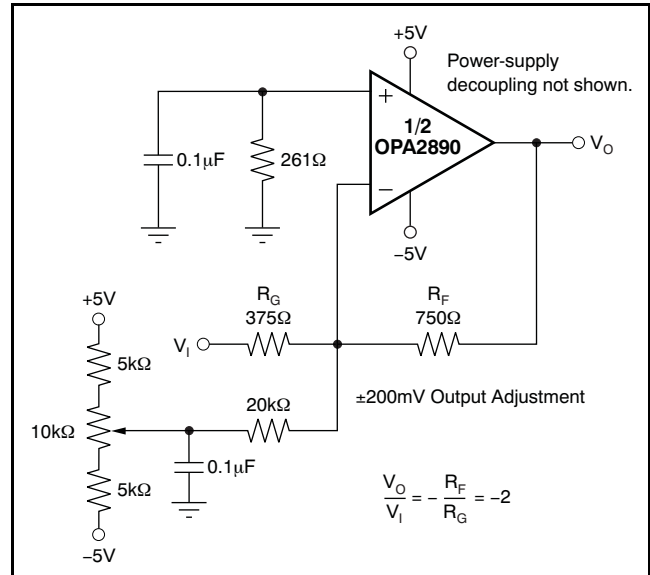

Figure 61. DC-Coupled, Inverting Gain of -2, with Offset Adjustment
A fine-scale output offset null, or dc operating point adjustment, is often required. Numerous techniques are available for introducing dc offset control into an op amp circuit. Most of these techniques eventually reduce to adding a dc current through the feedback resistor. In selecting an offset trim method, one key consideration is the impact on the desired signal path frequency response. If the signal path is intended to be noninverting, the offset control is best applied as an inverting summing signal to avoid interaction with the signal source. If the signal path is intended to be inverting, applying the offset control to the noninverting input may be considered. However, the dc offset voltage on the summing junction sets up a dc current back into the source that must be considered. Applying an offset adjustment to the inverting op amp input can change the noise gain and frequency response flatness. For a DC-coupled inverting amplifier, Figure 61 shows one example of an offset adjustment technique that has minimal impact on the signal frequency response. In this case, the dc offsetting current is brought into the inverting input node through resistor values that are much larger than the signal path resistors. This configuration ensures that the adjustment circuit has minimal effect on the loop gain and thus, the frequency response.
**d) Connections to other wideband devices** on the board may be made with short, direct traces or through onboard transmission lines. For short connections, consider the trace and the input to the next device as a lumped capacitive load. Relatively wide traces ( $50\text{mils}$  to  $100\text{mils}$ , or  $1.27\text{mm}$  to  $2.54\text{mm}$ ) should be used, preferably with ground and power planes opened up around them. Estimate the total capacitive load and set  $R_S$  from the plots of Figure 15 and Figure 36. Low parasitic capacitive loads ( $< 3\text{pF}$ ) may not need an  $R_S$  because the OPA2890 is nominally compensated to operate with a  $2\text{pF}$  parasitic load. Higher parasitic capacitive loads without an  $R_S$  are allowed as the signal gain increases (increasing the unloaded phase margin; see Figure 61). If a long trace is required, and the  $6\text{dB}$  signal loss intrinsic to a doubly-terminated transmission line is acceptable, implement a matched impedance transmission line using microstrip or stripline techniques (consult an ECL design handbook for microstrip and stripline layout techniques). A  $50\Omega$  environment is normally not necessary on board, and in fact, a higher impedance environment improves distortion as shown in the distortion versus load plots. With a characteristic board trace impedance defined (based on board material and trace dimensions), a matching series resistor into the trace from the output of the OPA2890 is used as well as a terminating shunt resistor at the input of the destination device. Remember also that the terminating impedance is the parallel combination of the shunt resistor and the input impedance of the destination device; this total effective impedance should be set to match the trace impedance.